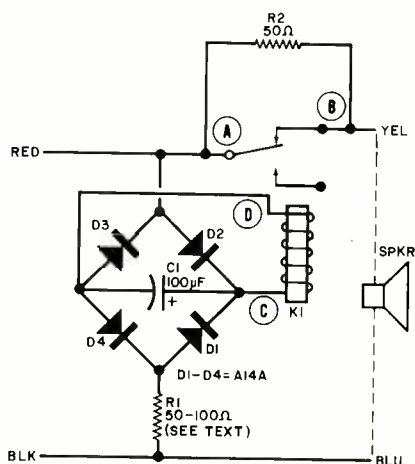

Fig. 1. The self-powered circuit, left, automatically reduces speaker level when peaks occur.
**About the Circuit.** The output from the power amplifier to the speaker-protection circuit is shown in Fig. 1. (The rectifier diodes should have a forward resistance of approximately 600 ohms to introduce minimal signal distortion.) The signal then goes to the normally-closed relay contacts and out to the speaker system.
than the required rms voltage cutout point of the speaker system. This allows for the voltage drop across the rectifier circuit. The diodes and capacitors should have twice the peak voltage rating of the signal passing through them. The components specified in Fig. 1 are for a 4- and an 8-watt unit and will protect a speaker system rated at 5 to 10 watts with a 20% derating factor for safety.
**Adjustment.** Make certain that the common of each amplifier output circuit is connected to the common of the speaker protector and observe proper speaker phasing when connecting the device into your audio system. With a relay whose coil resistance is about 100 ohms, the circuit shown in Fig. 1 will cut out at 4, 8, or 12 watts if the value of  $R1$  is 0, 50, or 100 ohms, respectively. Since the circuit is basically a voltage divider, doubling the value of  $R1$ , shifts the rms point 50% higher. You can also experiment with the value of  $R2$  to obtain the low level desired.  $\diamond$